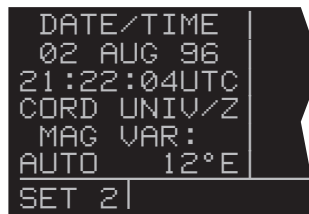

Figure 3-163
1. Select the SET 2 page on the left side (figure 3-163).